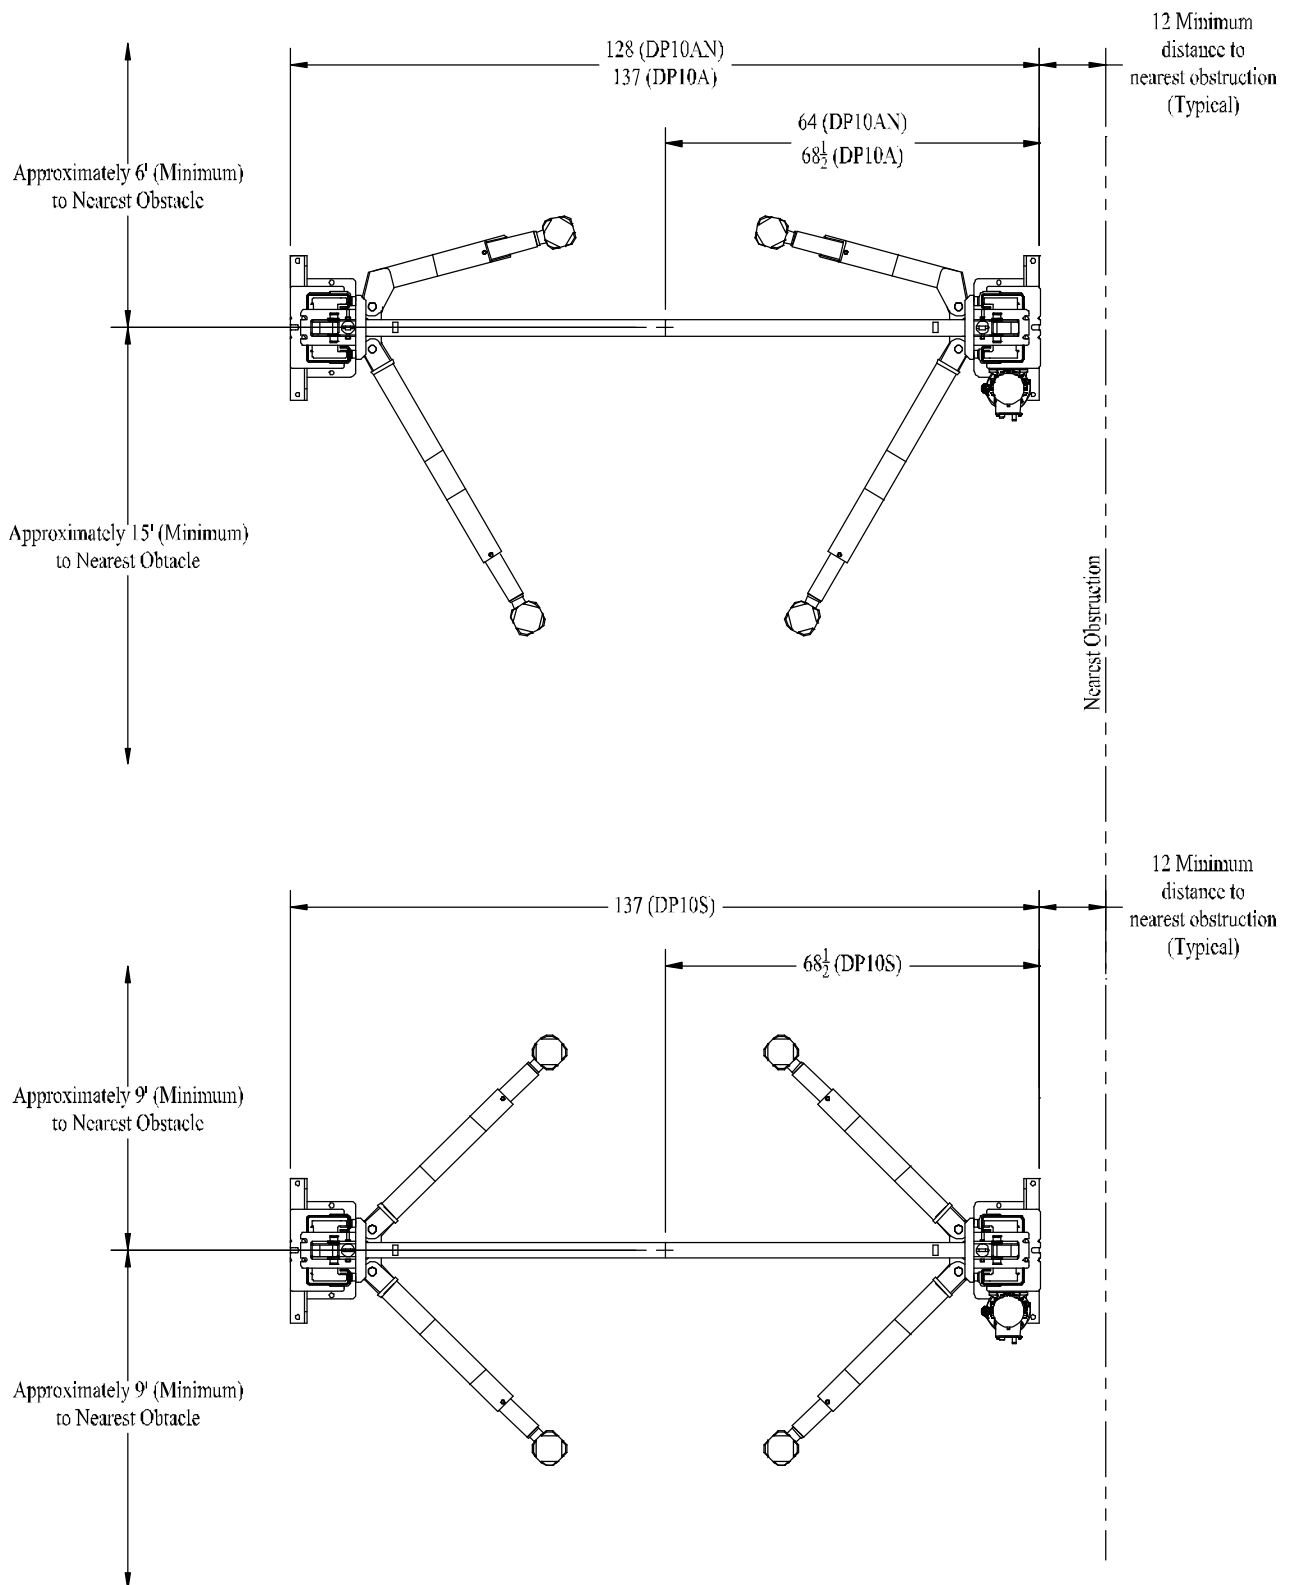

Figure 2
- A. Always use an architect's plan when provided. Before unpacking the lift entirely, determine if the site is adequate for the lift model being installed see figures 2 and 3 for typical bay layout and ceiling height requirements.
- A. ***Raise the Mainside leg only*** and position it where it is to be secured, figure 2.
I. Raise the offside leg and position it where it is to be located, figure 2. **Do not drill holes for anchors.**